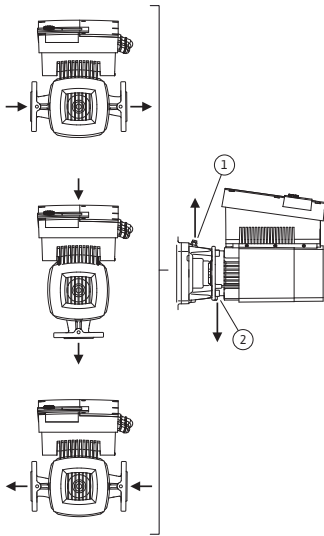

Fig. 23: Permitted installation positions with horizontal motor shaft
The permitted installation positions with horizontal motor shaft and electronic module facing up (0°) are shown in Fig. 23. The permissible installation positions with electronic module mounted on the side (+/- 90°) are not shown. Any installation position is allowed except for “electronic module facing down” (- 180°). The venting of the pump is only ensured when the air vent valve is pointing upwards (Fig. 23, Item 1). Only in this position (0°) can condensate be directed away via an existing drilled hole, pump lantern and motor (Fig. 23, Item 2).
- With a horizontal motor shaft, the condensate hole must be positioned towards the bottom (Fig 23, Item 2). If necessary, the motor must be turned accordingly.